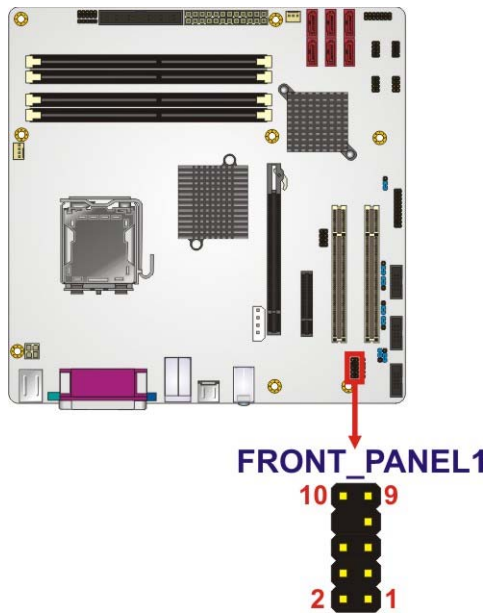

Figure 3-8: Front Audio Connector Location (10-pin)
- CN Location:** See **Figure 3-8**